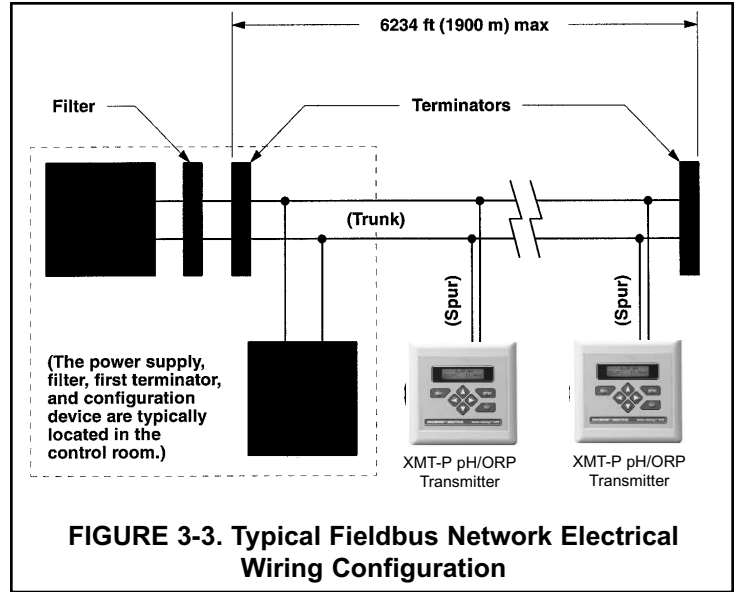
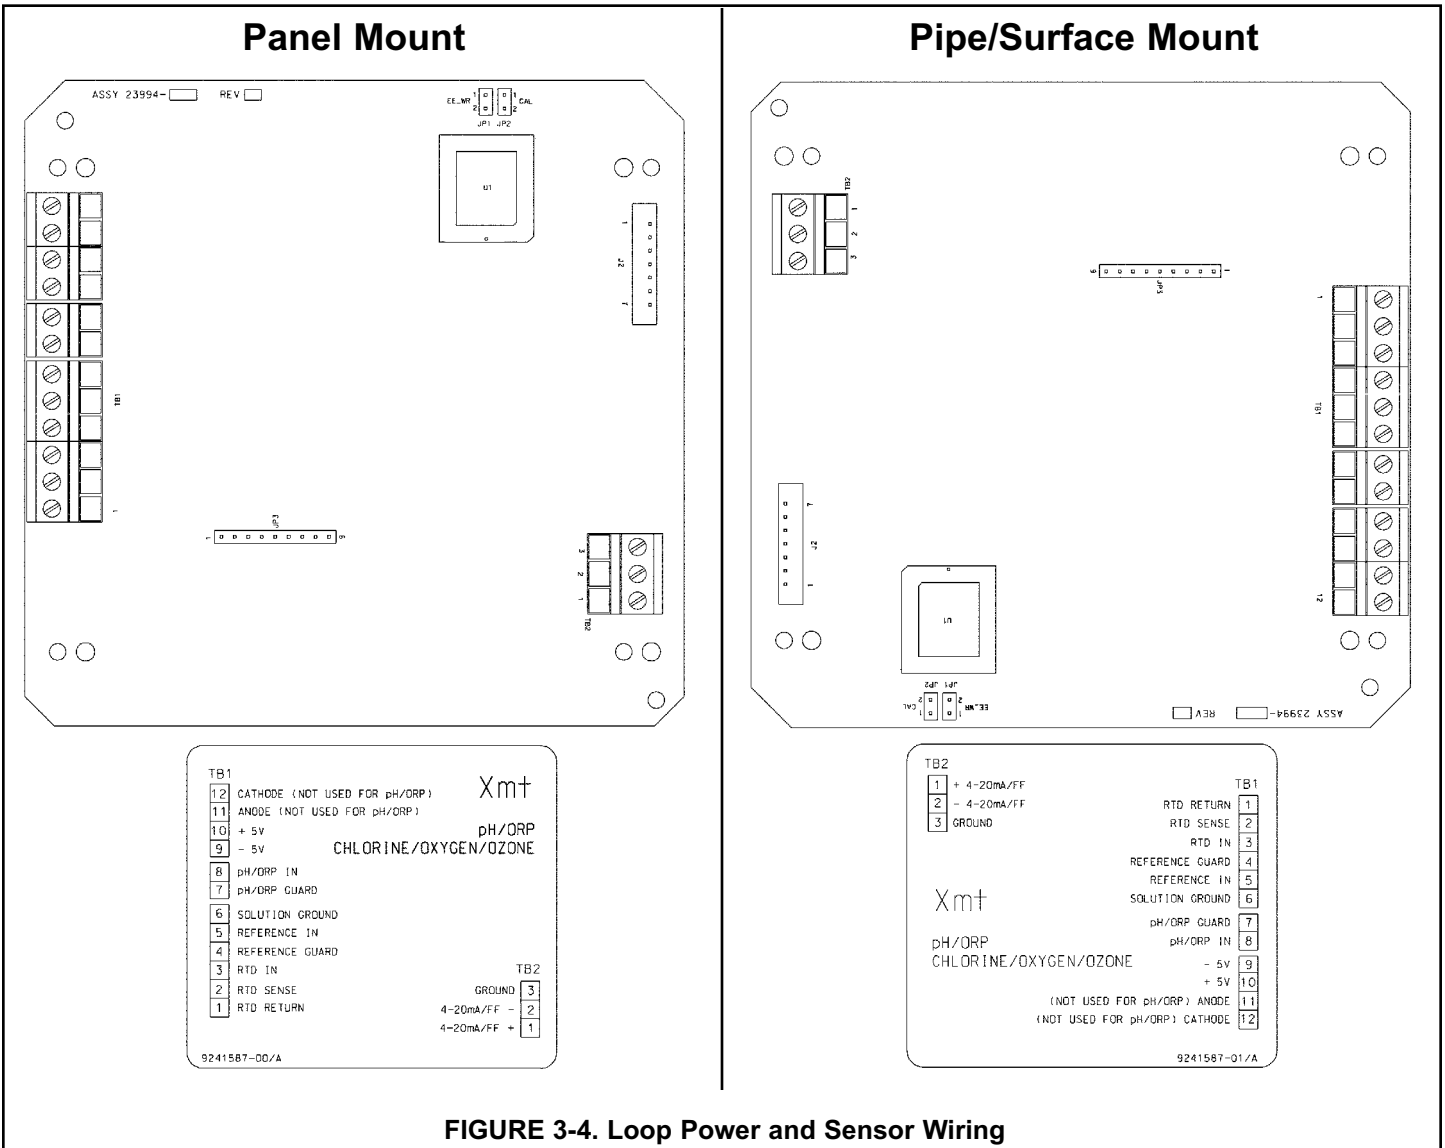

FIGURE 3-3. Typical Fieldbus Network Electrical Wiring Configuration
FIGURE 3-4. Loop Power and Sensor Wiring
3.2.1 Power Supply Wiring. Refer to Figure 3-3 and Figure 3-4.